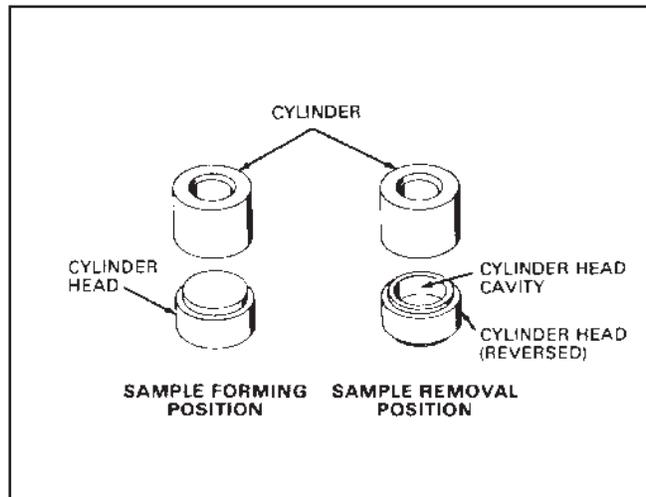

Figure 4.13
5. Remove the cylinder head from the cylinder, and reverse its position so that the cavity side of the cylinder head now faces the cylinder. Note the position shown in Figure 4.13.